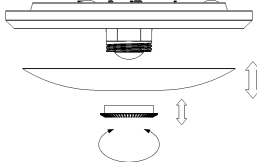

Figure1
- Unscrew the plastic screw nut and remove the PC lampshade.(refer to figure1)